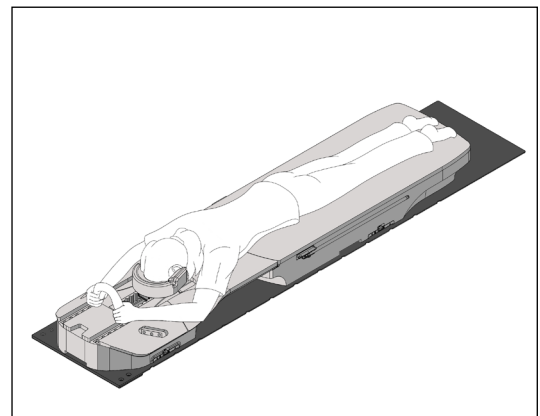

Fig. 14
5. Once in position, place the patients head into the head rest and have them grab the appropriate hand grips. (Fig. 14)